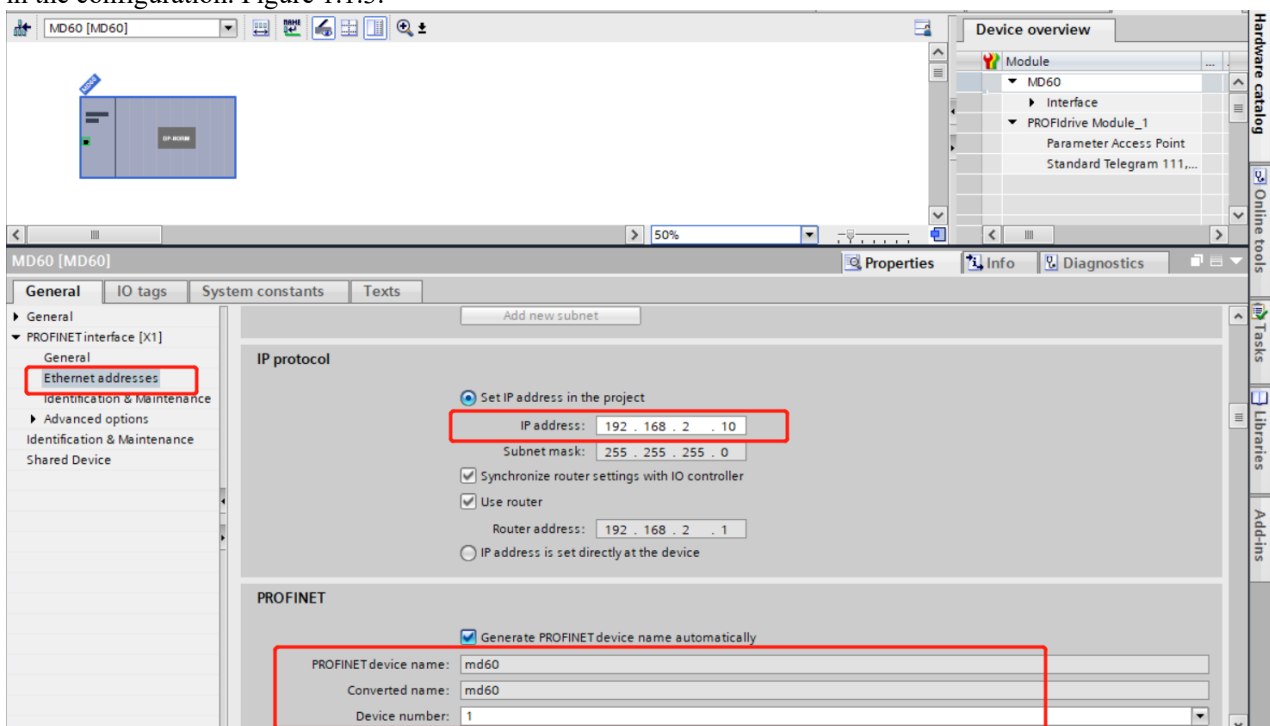

Figure 1.1.3 Set IP address and device name
③ Double-click the MD60 module, click "Ethernet Address" in "General", and set the configuration profinet device name, which must be consistent with the drive's profinet device name. And when there are multiple drives, the device names cannot be the same. Otherwise, the PLC will prompt that there is a drive not connected. Choose to set the IP address in the project, or set the IP address in the device. When setting the IP address in the project, the PLC will set the IP address of the drive whose configuration is consistent with the device name of the drive to the IP address set in the configuration. Figure 1.1.3.